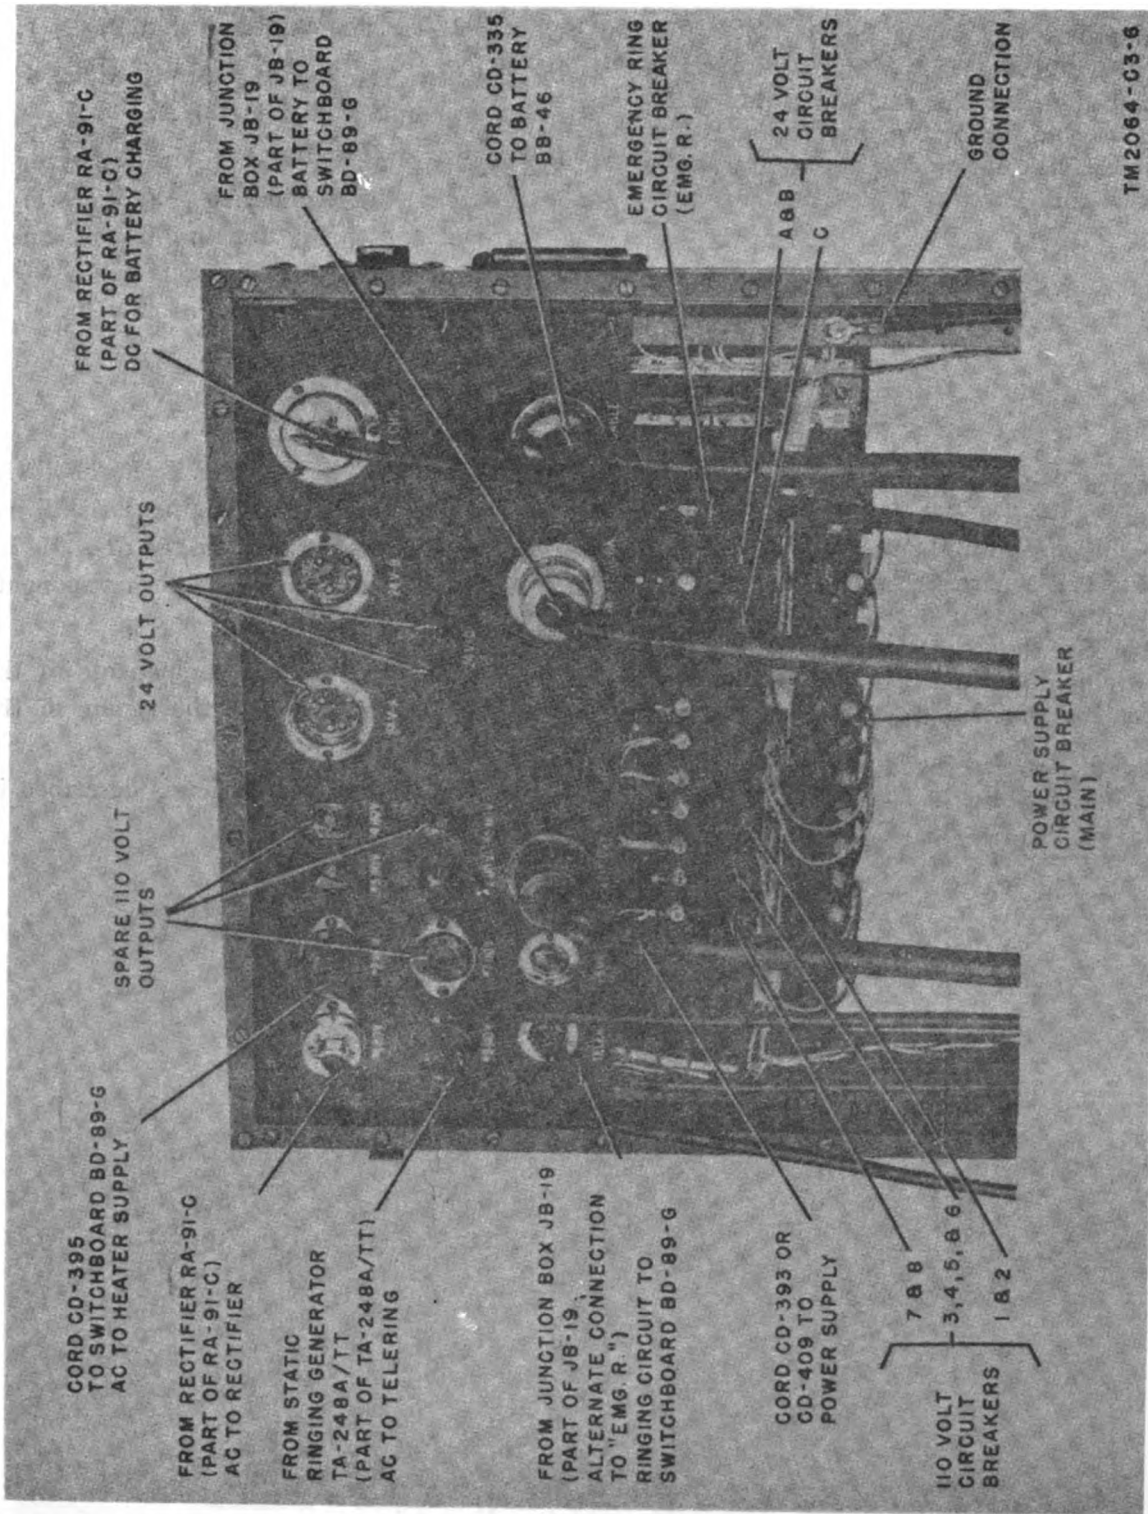

Figure 32 (Added) Connections to cord connector panel and wiring side of meter and switch panel.
53. Connections (fig. 32)
Connections to Power Switchboard SB-361/TT may vary for different installations. Figure 32 shows the connections required for use in manual Telephone Central Office AN/TTC-10. For additional information, refer to chapter 2.